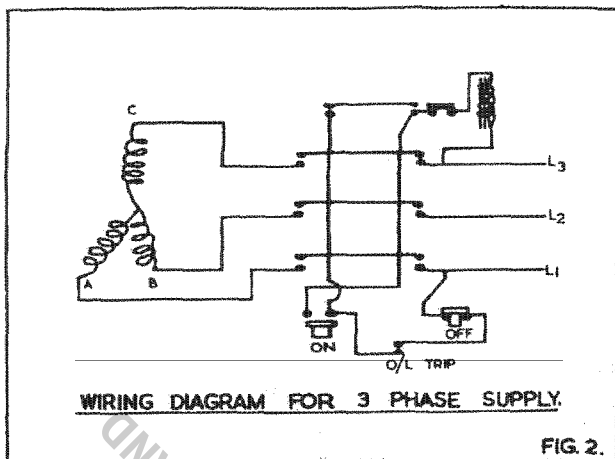
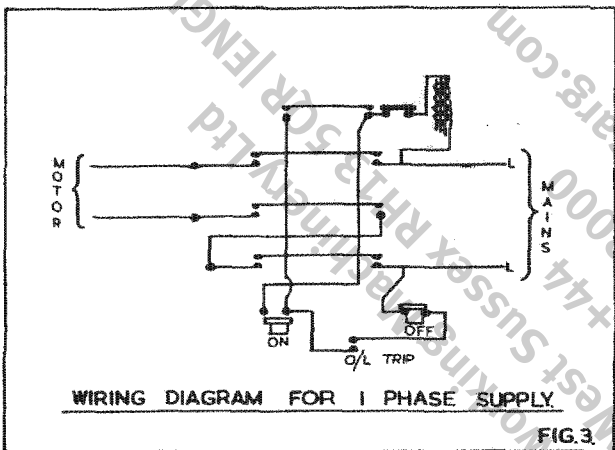

FIG. 2.
FIG. 3.
4. Connect the line leads to the appropriate terminals. See Fig. 2 for 3 phase supply and Fig. 3 for 1 phase supply.